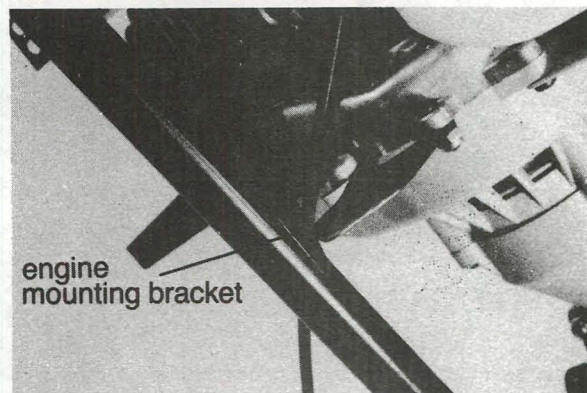

Fig. 6
2. Position the handlebars to the engine mounting brackets (Fig. 6).